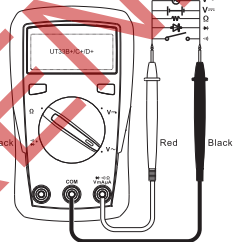

Figure 2b
1.AC/DC voltage measurement (see Figure 2b)
2.Resistance measurement (see Figure 2b)
3. Continuity measurement (see Figure 2b)
4. Diode measurement (see Figure 2b)